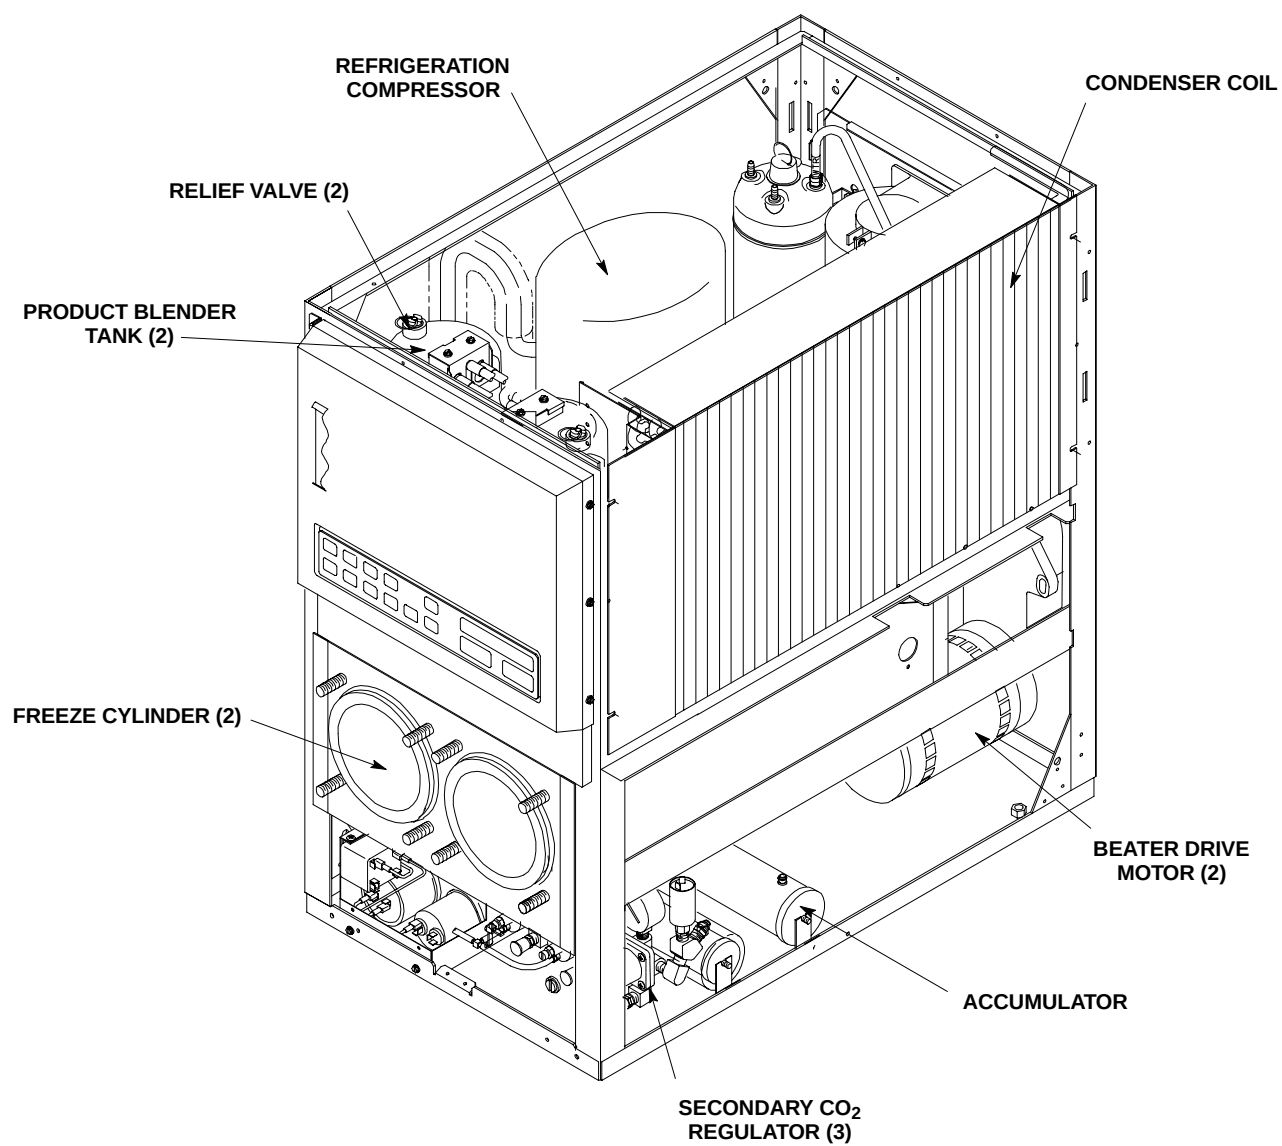

FIGURE 6. UNIT INTERNAL COMPONENTS
The FCB Dispenser refrigeration system is equipped with a condenser coil (see Figure 6) that is cooled by two condenser coil fans. Circulating air, required to cool the refrigeration system's condenser coil, is drawn in through a grilled panel on the right-hand side and is exhausted out through the opposite side and back grilled panels. Restricting air circulation through the Unit will decrease its cooling efficiency. THE CONDENSER COIL MUST BE CLEANED PERIODICALLY AS INSTRUCTED IN the SERVICE AND MAINTENANCE section.
3. The FCB Dispenser refrigeration system is equipped with a condenser coil (see Figure 6) that is cooled by two condenser coil fans. Circulating air, required to cool the refrigeration system's condenser coil, is drawn in through a grilled panel on the right-hand side and is exhausted out through the opposite side and back grilled panels. Restricting air circulation through the Unit will decrease its cooling efficiency. THE CONDENSER COIL MUST BE CLEANED PERIODICALLY AS INSTRUCTED IN THE SERVICE AND MAINTENANCE SECTION.
(see Figure 6)
NOTE: The FCB Dispenser refrigeration system is equipped with a condenser coil (see Figure 6) that is cooled by two condenser coil fans. Circulating air, required to cool the refrigeration system's condenser coil, is drawn in through grilled panel on the right-hand side and is exhausted out through the opposite side and back grilled panels. Restricting air circulation through the Unit will decrease its cooling efficiency. THE CONDENSER COIL MUST BE CLEANED PERIODICALLY AS INSTRUCTED.